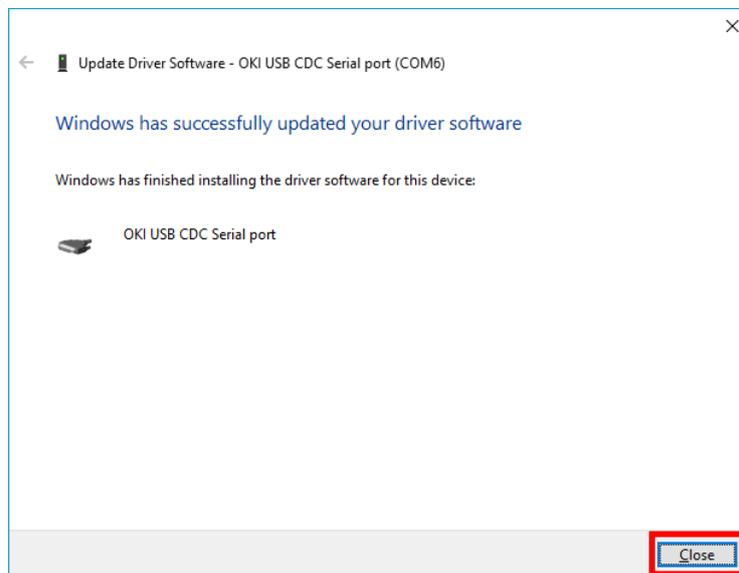

Figure 12. Update Driver Software
*) When setting up the maintenance console, COM port number should be specified. Remember the COM port number set in the procedure (16). In case of Figure 12 example, COM 6 in "OKI USB CDC Serial port (COM 6)" is the COM port number.